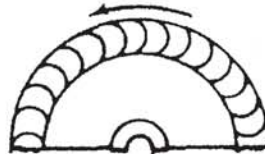

Figure 3 – Wheel Rotation Forward Curve
2. After electrical connections are completed, apply just enough power to start the unit. Be sure that the rotation of the wheel is correct as indicated by directional arrows on the unit. If proper rotation, apply full electrical power. If rotation is incorrect, reverse direction according to instructions given on motor nameplate. See Figure 3.